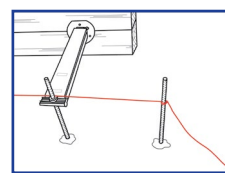

Fig 6
Step 4: Hammer a stake in at both ends of formwork and run a string line across the entire length of the joint (Fig 6). Once string line is to the correct height you can adjust all of the remaining Dowelmaster sleeves to the correct height and again lock them into place with stakes and wedges.